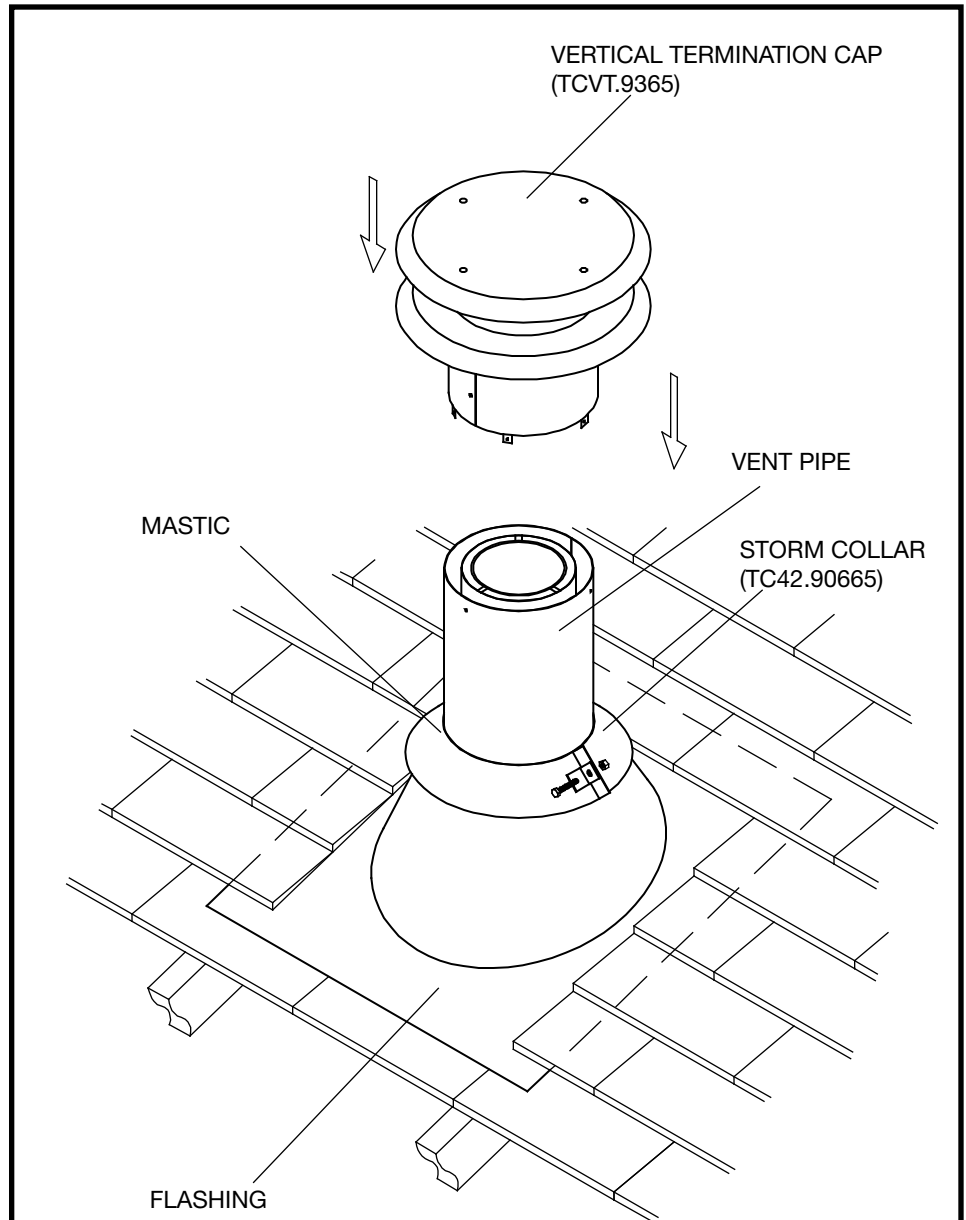

Figure 46: TC36 Roof vent terminal.
1. Place the roof flashing over the vent pipe, secure and seal it to the roof using the methods and materials appropriate for the type of roof on the building. Shingle roof example shown (Figure 46).
2. Place the storm collar down over the vent pipe until it is level. Tighten storm collar for a snug fit. Apply a thick horizontal ring of mastic around the pipe at top of the storm collar (Figure 46).
3. Lower the roof vent terminal cap over the vent pipe and secure in place with screws provided (Figure 46). Seal screw heads and joints with caulking to prevent any moisture entering the venting system.